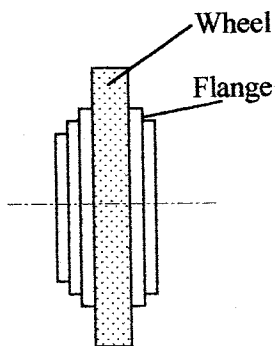
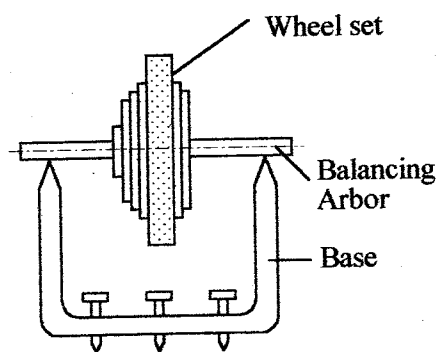

Fig. 1
Fig. 2
Because different material workpiece has to be grinded by different quality grinding wheel, we suggest you prepare a seldom used grinding wheels with their special flanges. So that you can prevent trouble from taking off and rebalancing the grinding wheel. After assemble the wheel and flange (Fig 1), put on the balance rod and place on the Balancing stand (Fig 2), then follow the points below:
When you dress grinding wheel, diamond inevitably wear along the machining direction, so that the diamond dresser has to be put at the position of angle 6° slant to keep its sharps. (Fig. 1)
- When you are going to dress the grinding wheel, put the sharp top of diamond dresser at approximately 5mm to the left bottom of grinding wheel, and stop longitudinal movement of working table, then, move cross feed front and rear slowly to dress. (Fig. 2)
(Fig. 1)
(Fig. 2)